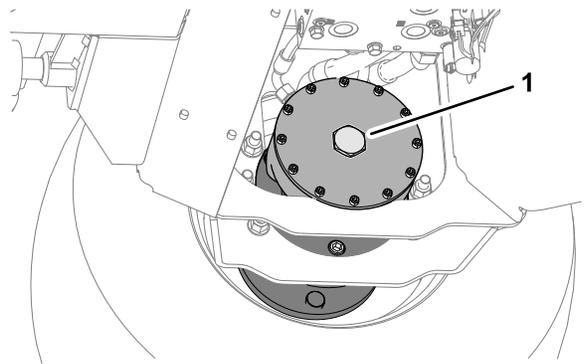

Figure 46
- Install the hex plug into the motor end plate (Figure 46).
- Stow the 2 bolts 12 x 40 mm and 2 washers 12 mm stored in the platform support rails (Figure 46).